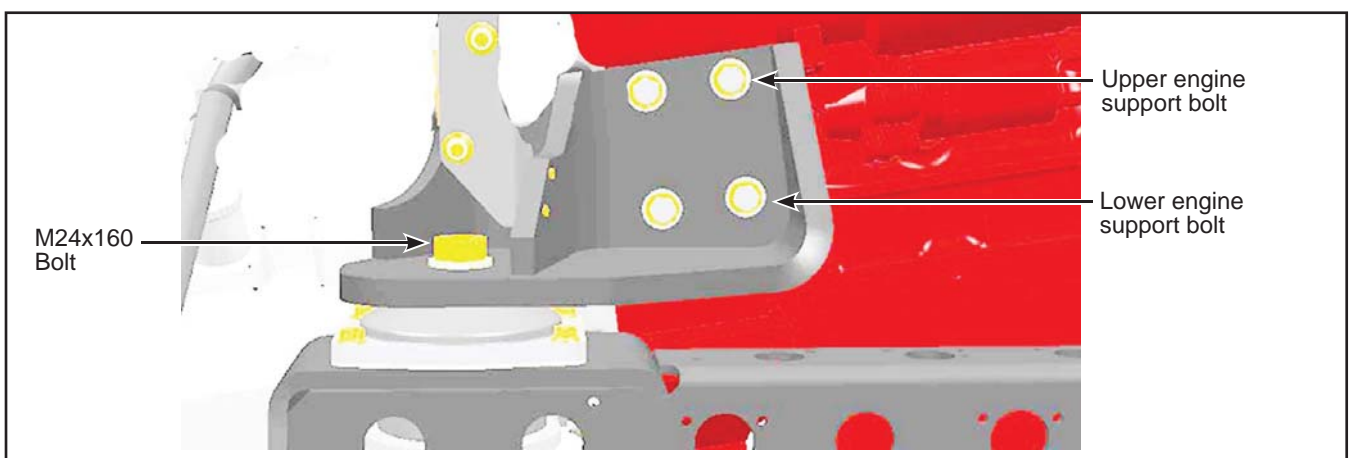

Figure 6 - Engine Support Bolts
- 1.9. Remove the M24X160 bolts and nuts. See Figure 6. Retain the hardware.
- 1.10. Remove and dispose of the four M16X45 bolts and lock washers of the engine support. See Figure 6.